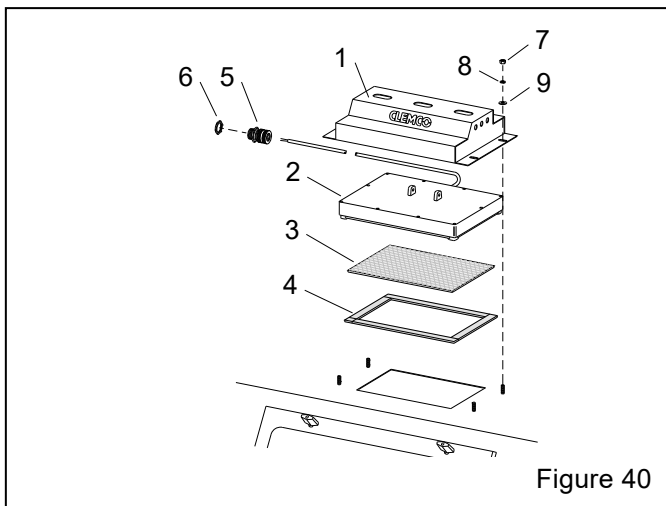

Figure 40
9.6 LED Light Assembly – Figure 40